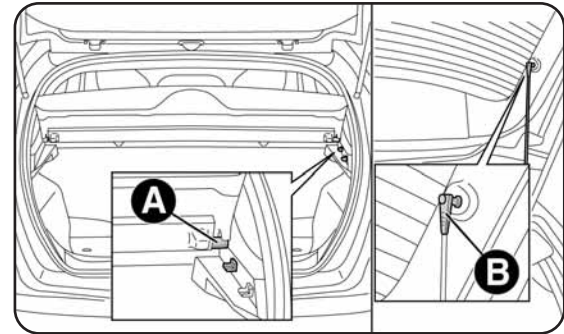

fig. 61
- release attachments A-fig. 61 (one on each side);
- release attachments B-fig. 61, rotate the rear parcel shelf through 90° and slide it out.